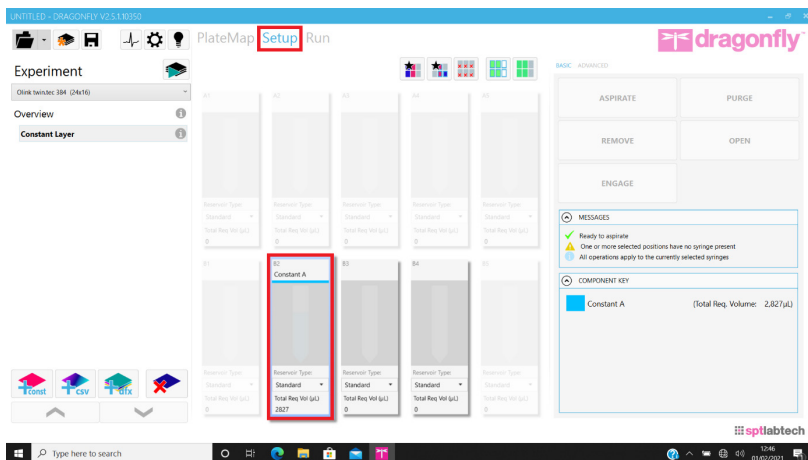

Figure 9. Setup page showing correct syringe position (here: B2)
5. Select the *Setup* page. It shows how many syringes to use, and at which positions they shall be inserted (*Figure 9*).